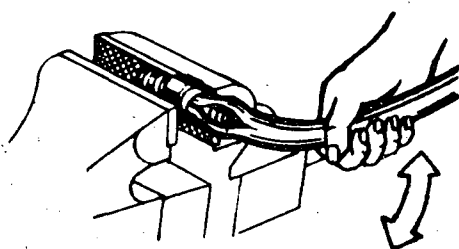

Fig. 2
- c) Bend the hose and remove it from the nipple (Fig. 2).